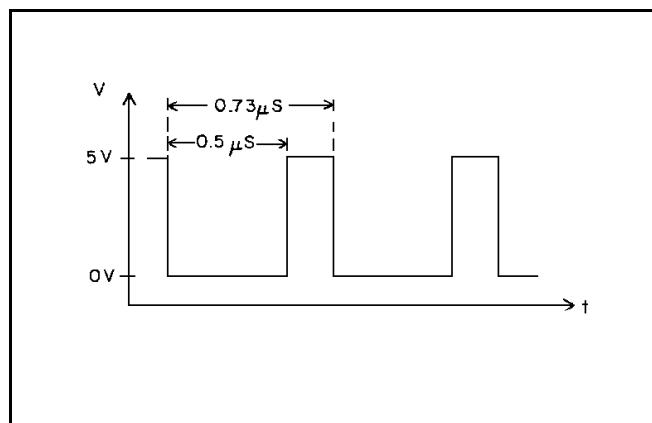

Figure 2 - ALE Clock
3. See Figure 2 and check for clock oscillator activity by examining the ALE on U701 pin 33 for 5 Vpp at 1.36533 MHz (clock crystal frequency divided by 6). If not present, examine the system clock on U701 pin 21 or the buffered output on J703-15 for 5 Vpp at 8.192 MHz. The presence of system clock but no ALE may indicate a bad U701. If the system clock is not present, suspect Y701 and related components.